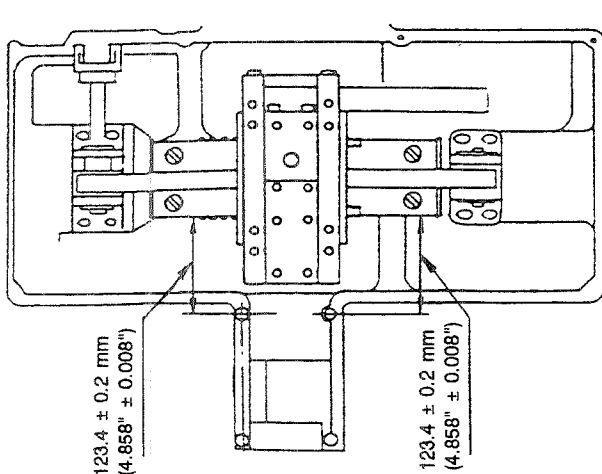

Fig. 5-55-5
- o If the sprocket has been removed from the X bracket shaft, apply LOCK-TITE No. 242 to setscrews 18, and then fix the sprocket so that a 1 mm (0.039) clearance is obtained between the sprocket and the X-axis bracket (B).
- o Position and fix the X-Y table according to Fig. 5-55-5. (Standard throat plate setscrew hole dia.: Setscrew hole dia. 11/64 pitch 40) After the X guide shaft has been installed, move the guide plate laterally and longitudinally to make sure that the guide plate can be moved smoothly.
- o To adjust the belt tension, refer to the "STANDARD ADJUSTMENTS (31)."